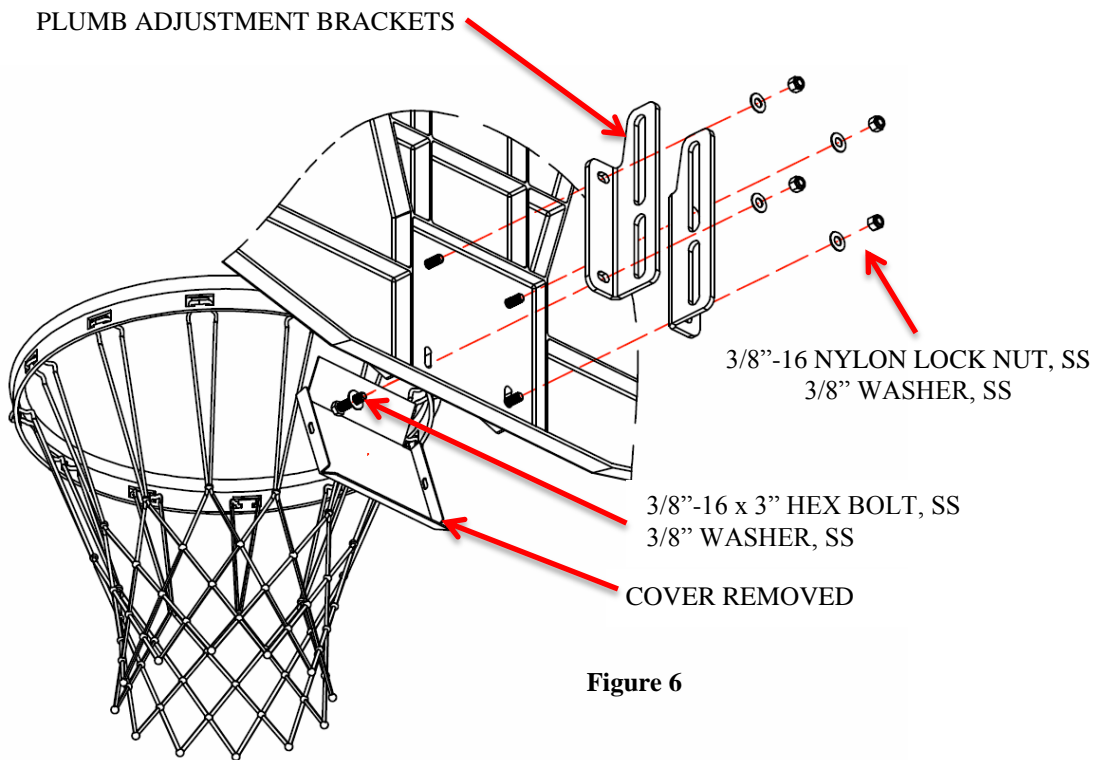

Figure 6
2. Lift entire backboard and assembly the goal on to the board and brackets as shown in figure 6.